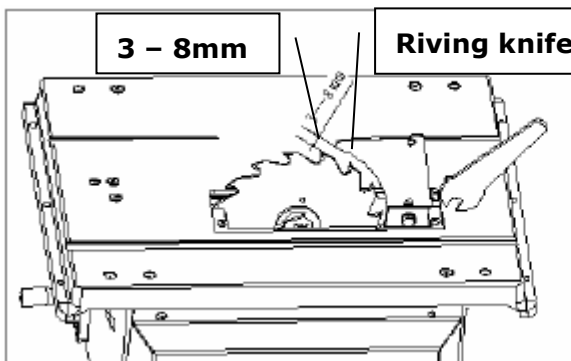

Fig. 6
- Adjust the riving knife to a distance of about **3mm - 8mm** for a saw blade (Fig. 6).